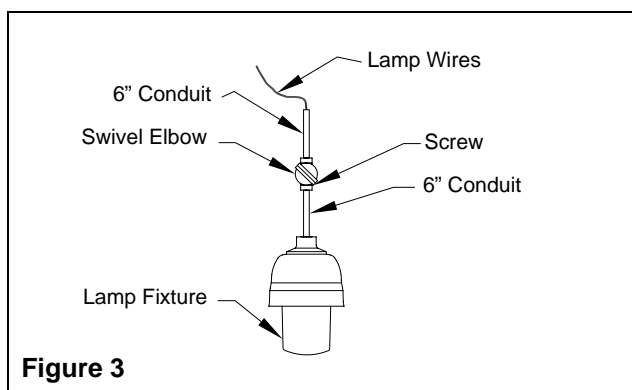

Figure 3
4. Disconnect swivel elbow by removing the screw (see fig. 3). Route lamp wires through the 90-degree elbow on top of housing. Connect swivel elbow with 6" conduit to the 90-degree elbow. Do not lengthen this conduit unless a seal is fitted within 18" of the housing. Permanently secure and tighten all fittings after properly positioning. Re-assemble swivel elbow.